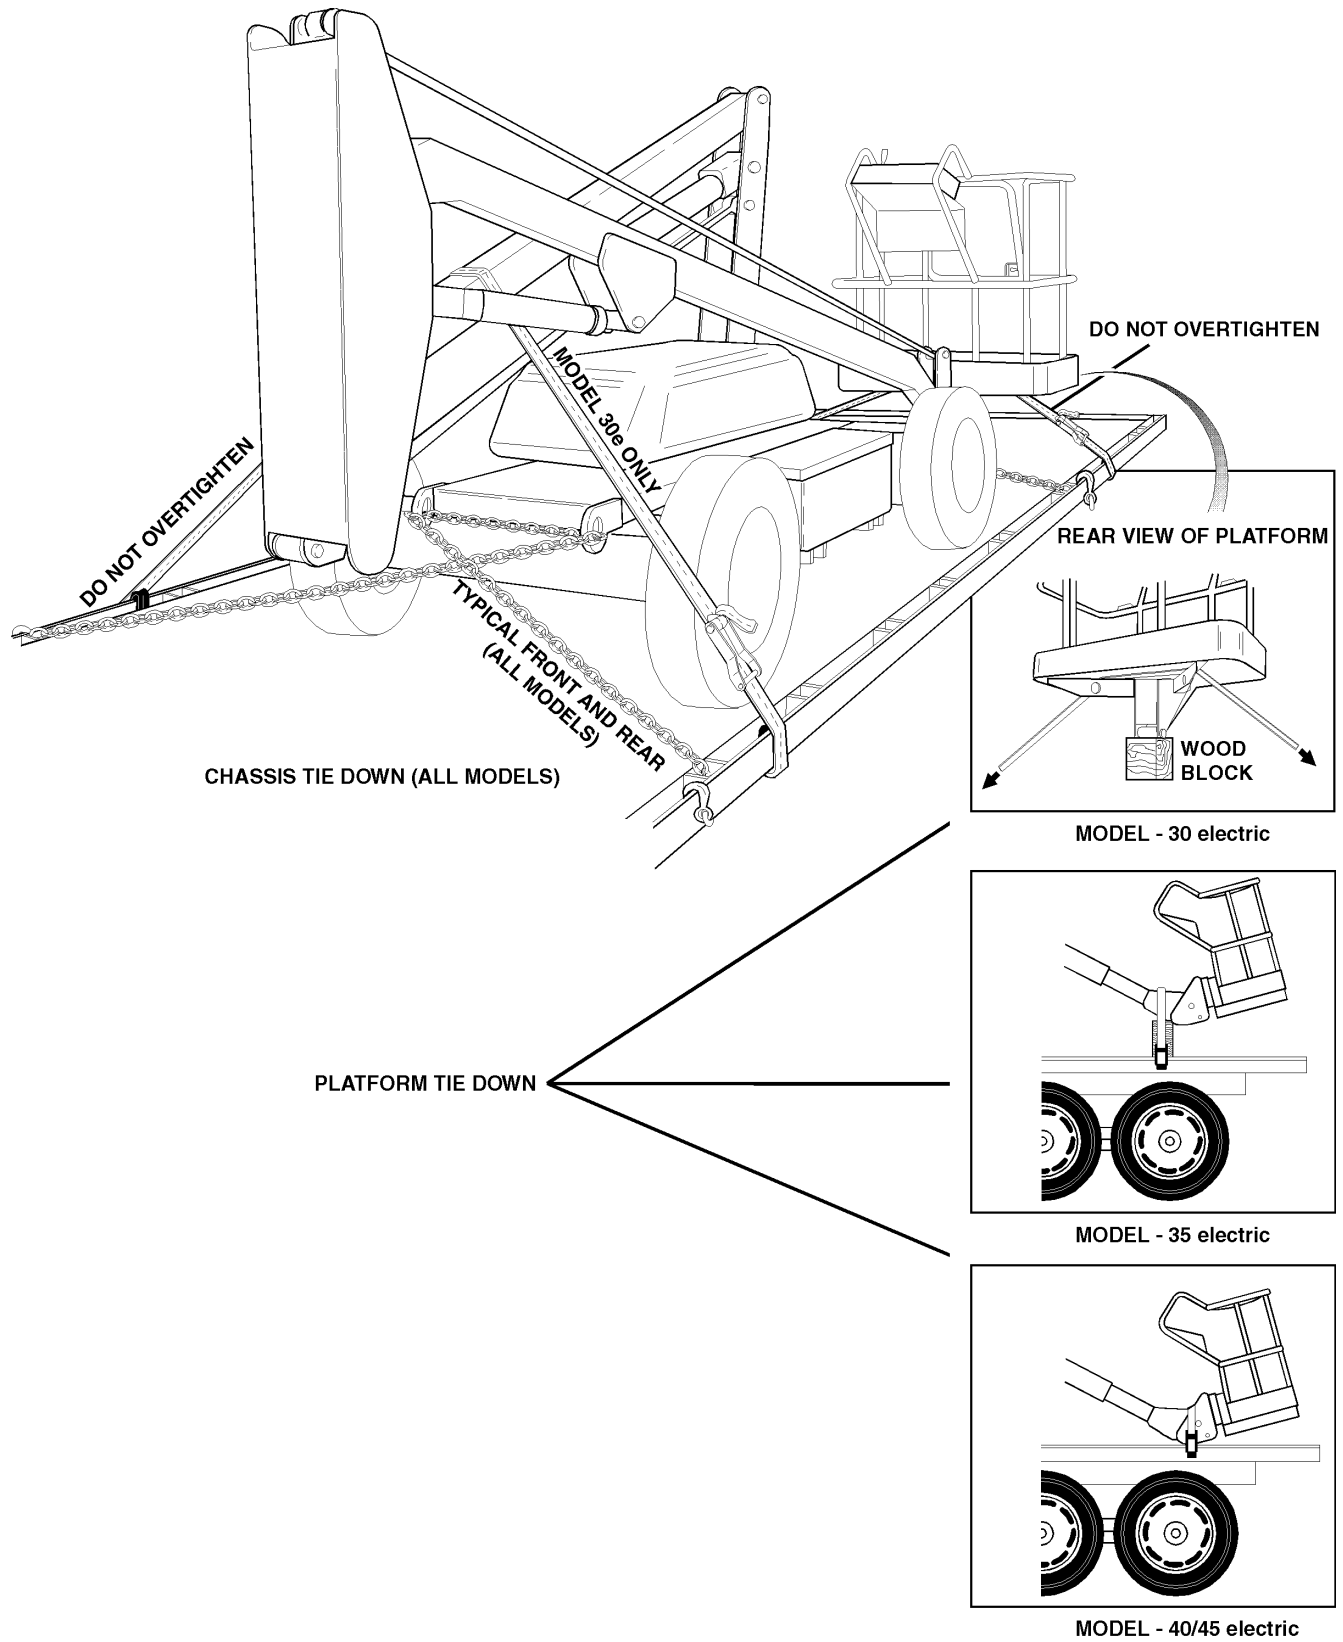

Figure 4-3. Chassis & Platform Tie Down. (All Models)
### Chassis Tie Down (All Models). (See Figure 4-3)
When transporting machine by truck or trailer, boom must be in stowed position and machine chassis securely tied down to truck or trailer deck. Four tie down eyes are provided in the frame. As shown in figure 4-3.
### Platform/Boom Tie Down (Model 30electric). (See Figure 4-3)
Place a 6" x 6" (15cm x 15cm) wooden block under platform support as shown, lower boom so the support rests on the wooden block. Secure platform by running a suitable tie down strap over the supports under platform floor and secure to truck or trailer as shown in figure 4-3. DO NOT OVERTIGHTEN OR DAMAGE WILL OCCUR TO BOOM OR PLATFORM. Secure lower boom by running a suitable tie down strap over the lower boom and under the lift cylinder as shown and secure to truck or trailer. DO NOT OVERTIGHTEN OR DAMAGE WILL OCCUR TO BOOM OR PLATFORM.
(See Figure 4-3)**
Tilt platform forward all the way toward the boom and telescope fly boom section out until rotator support rests on a 6" x 6" (15cm x 15cm) wooden block. Secure platform support to truck or trailer using a suitable tie down strap as shown in figure 4-3). **DO NOT OVERTIGHTEN OR DAMAGE WILL OCCUR TO BOOM OR PLATFORM.**
45electric). (See Figure 4-3)**
Tilt platform forward all the way toward the boom and telescope fly boom section out until rotator support rests on truck deck. Secure platform support to truck or trailer using a suitable tie down strap as shown in figure 4-3). **DO NOT OVERTIGHTEN OR DAMAGE WILL OCCUR TO BOOM OR PLATFORM.**
**FAILURE TO TIE DOWN PLATFORM AND BOOM, AS SHOWN IN FIGURE 4-3, MAY ALLOW PLATFORM TO ELEVATE DURING TRANSPORTING.**